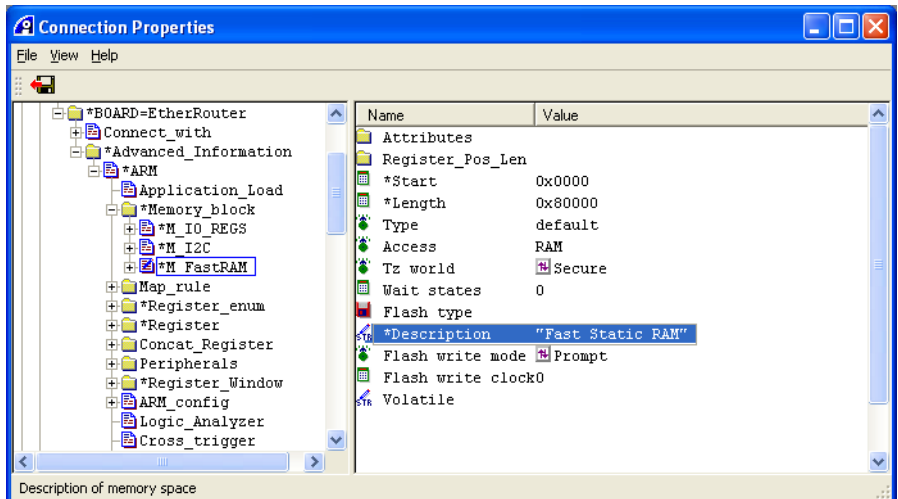

Figure 5-17 M_FastRAM memory block
6. Change the settings for the M_FastRAM memory block, shown in Figure 5-17: